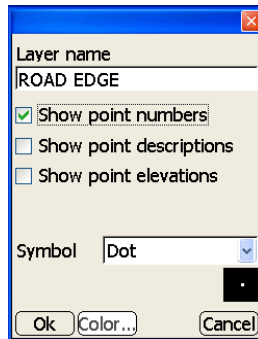

Figure 4-12. New Layer Parameters
- New layer – tap to add a new point layer. After entering a new layer name and selecting the following layer parameters, press **Ok** to save the information (Figure 4-12 on page 4-9).